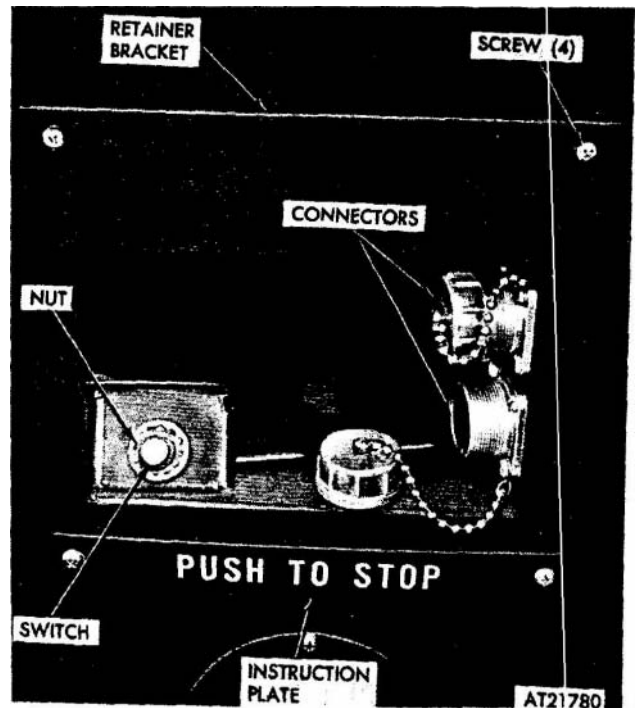

Figure 2-128. Carrier stop signal switch.
(1) Remove instruction plate and retainer bracket from carrier front panel by removing four screws (fig 2-128).
(2) Pull retainer bracket out a sufficient distance to permit disconnection of electrical connections. Disconnect electrical connectors.
(3) Remove switch from retainer bracket by removing nut.
(1) Connect electrical connectors to carrier stop signal switch.
(2) Insert switch in mounting hole of retainer bracket and secure with nut (fig 2-128).